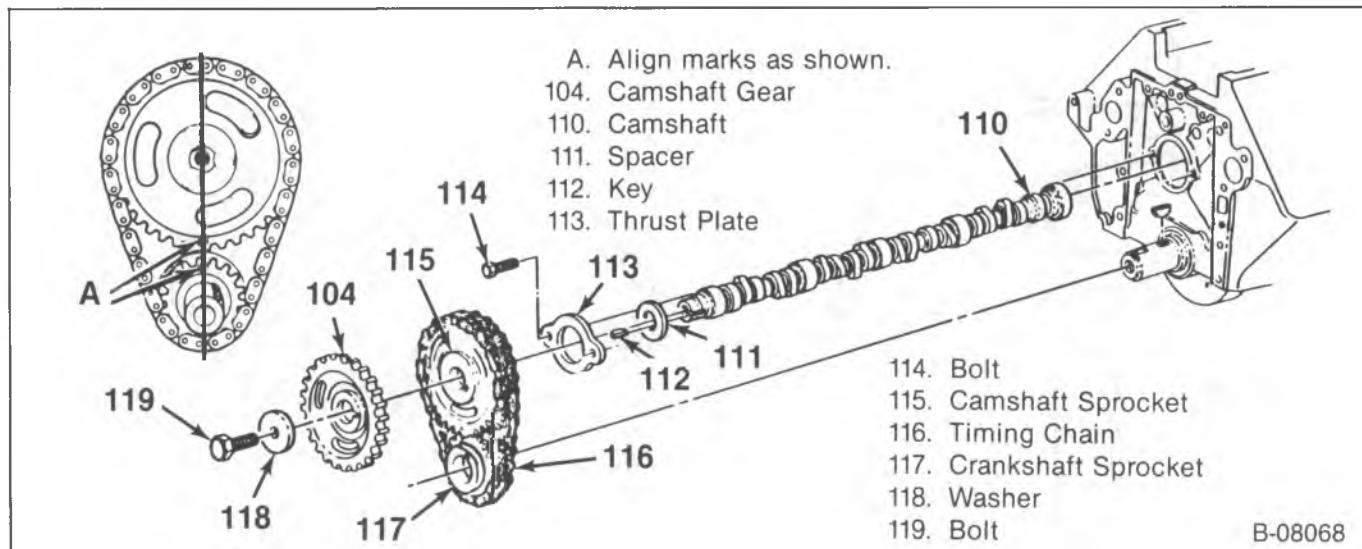

Figure 38—Camshaft and Components
Install or Connect (Figure 38)
- Align the timing marks (figure 38).
3. Camshaft gear (104), washer (118) and bolts (119).